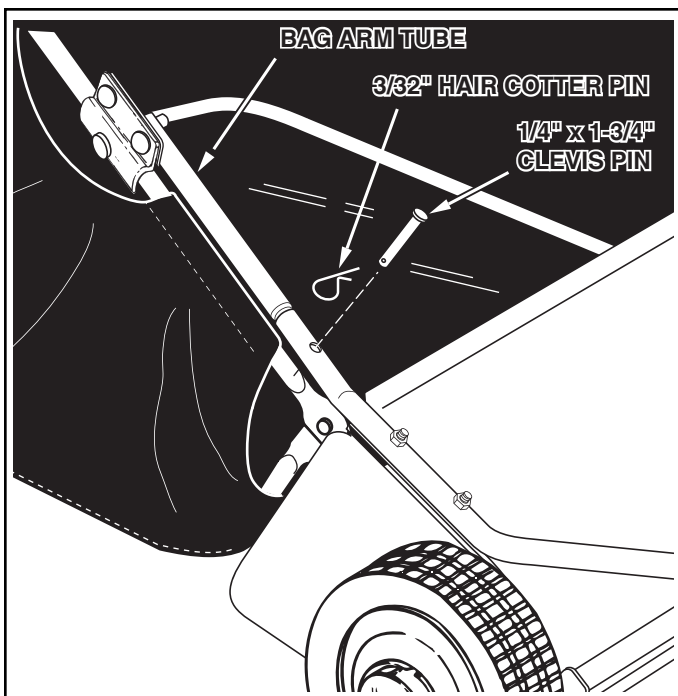

FIGURE 20
- To assemble the hopper bag to the sweeper, slide the ends of the bag arm tubes into the ends of the sweeper's hitch tubes and secure with two 1/4" x 1-3/4" clevis pins and 3/32" hair cotter pins. See figure 20.